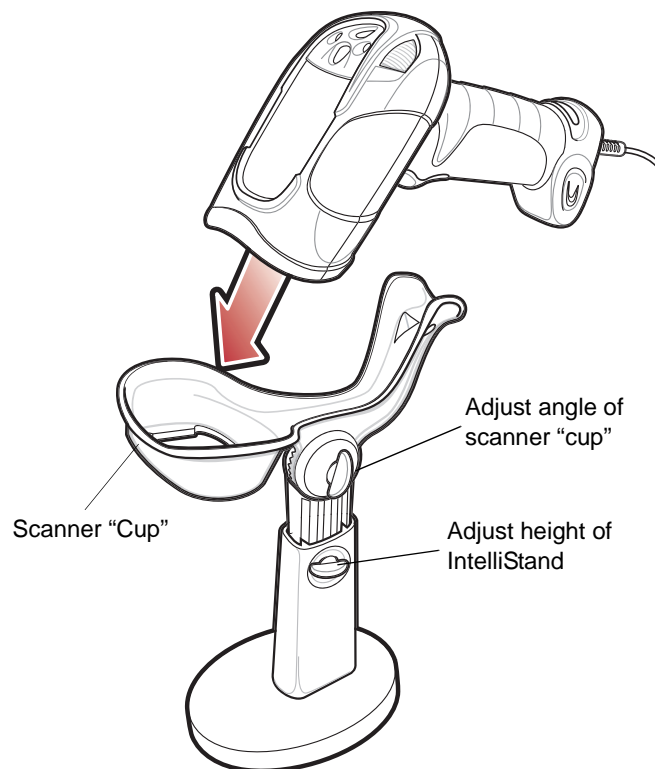

Figure 2-2 Scanning in Hands-Free Mode
2. Insert the digital scanner in the Intellistand by placing the front of the digital scanner into the stand's "cup" (see Figure 2-2).